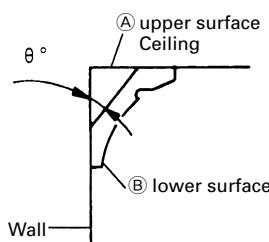
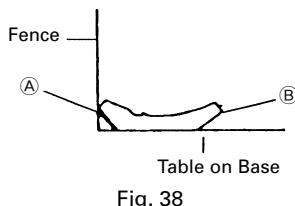
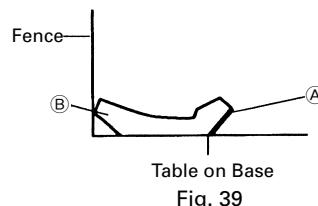

Fig. 33
Fig. 38
Fig. 39
Fig. 33 shows two common crown molding types having angles of ( $\theta$ )  $38^\circ$  and  $45^\circ$ .
- ③ Position the crown molding so that the upper surface (Ⓐ in Fig. 33) contacts the fence as indicated in Fig. 38.
- ③ Position the crown molding so that the lower surface (B) in Fig. 33) contacts the fence as in Fig. 39.